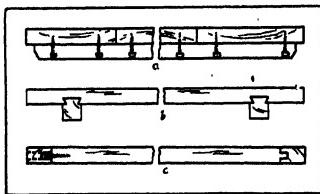

Fig. 280. Drawing-Board Construction:
*A Drawing-Board* is made up of narrow boards, with glued joints, with the boards so laid that the annual rings will alternate in direction, Fig. 280, *a*. It must be made so that it can shrink and swell and yet remain flat. For the purpose of giving lateral stiffness cleats are added. They may simply be screwed on the underside, the screw holes being large enough to allow for shrink-
age, or they may be dadoed in with a dovetail dado, Fig. 280, *b*, or they may be grooved to admit a tongue on the end of a board, Fig. 280, *c*. In this case screws passing thru large holes in the cleats hold them in place.